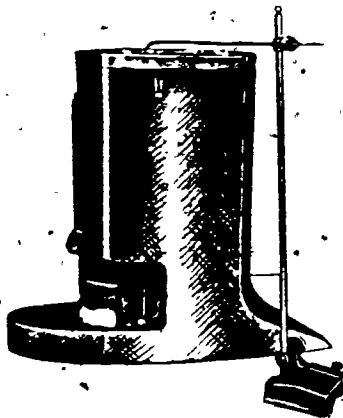

FIGURE 6
2. Check parallelism of exhaust housing (Figure 6)